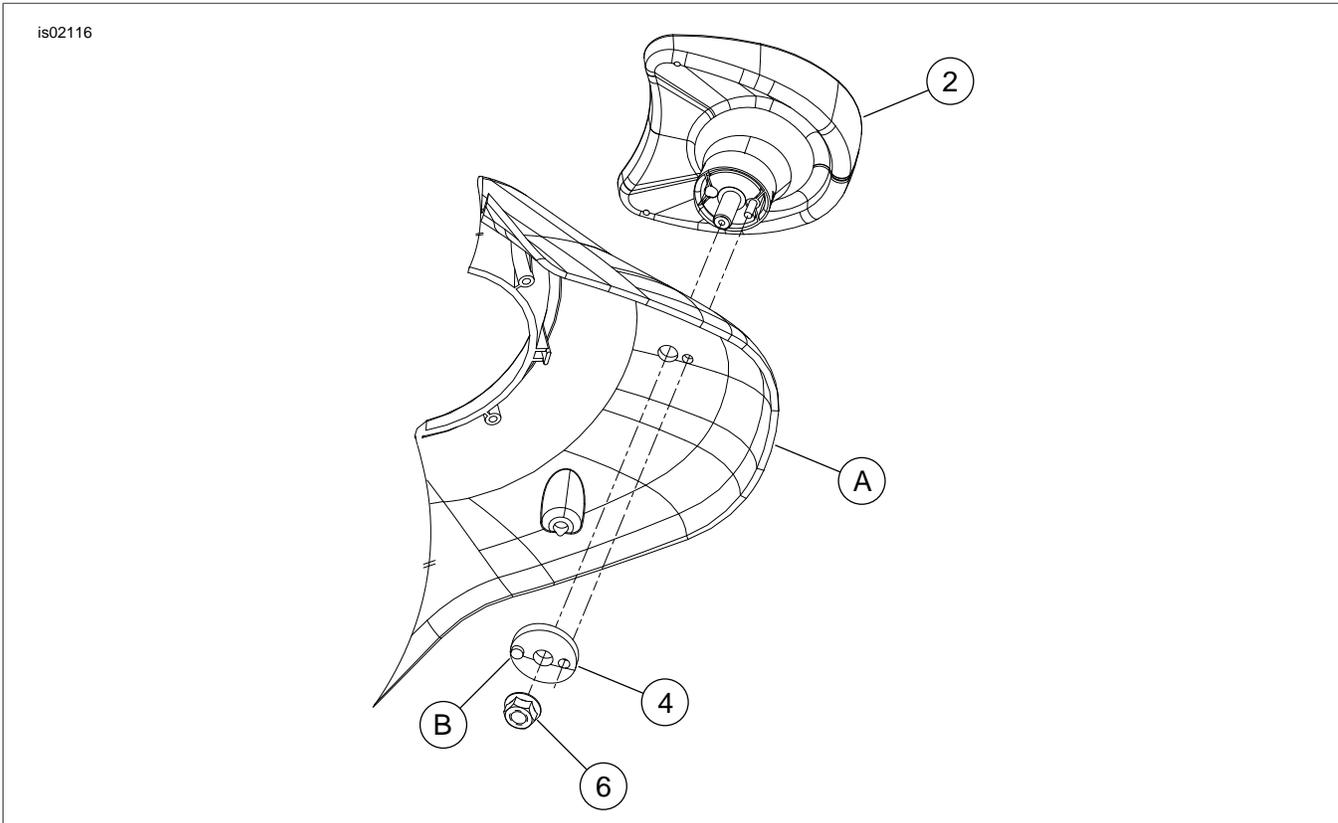

Figure 3. Service Parts: Fairing Mount Mirrors
3. See Figure 3. Place mirror (2) in position and install backing plate (4) with the raised post (B) (with the L and